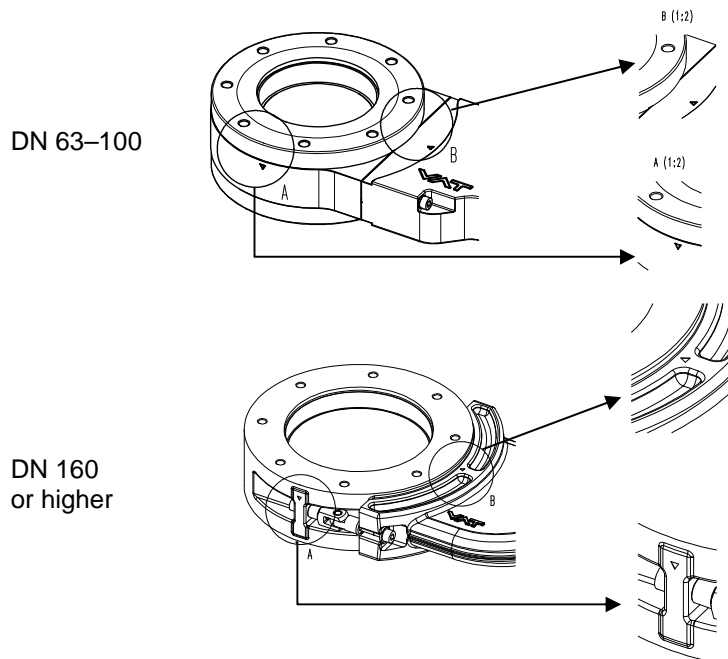
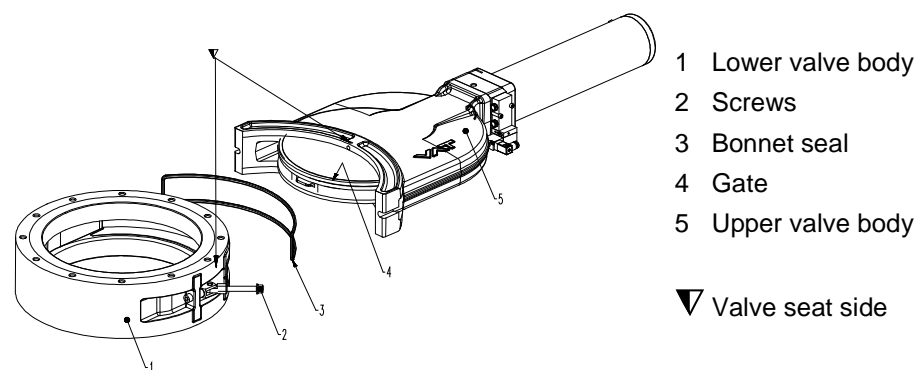

Figure 6-3
Figure 6-4
The numbers in brackets () refer to «Figure 6-4» on page 19.
15. Install new bonnet seal (5).
Make sure to have gate (2); see «Figure 6-2»; on seat side «∇»; see «Figure 6-4» on page 19.
The tips of the triangles «∇» of both body parts must face each other; see «Figure 6-3 » on page 19 and «Figure 6-4» on page 19.
19. For DN 160 or higher: Swing back both screws (2); see «Figure 6-4».
20. Tighten the screws (2) with the appropriate torque specified in chapter «6.2 Tightening torque specifications».